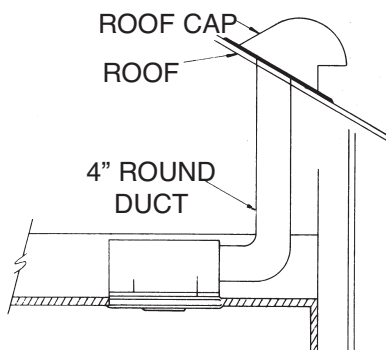

FIG. 1
6. Run four inch duct from discharge outlet to roof jack or wall cap. See Figs. 1 & 2.
1. Carefully read all previous installation instructions and follow those applicable to your installation, including ducting and wiring. (Figs. 1 & 2.)